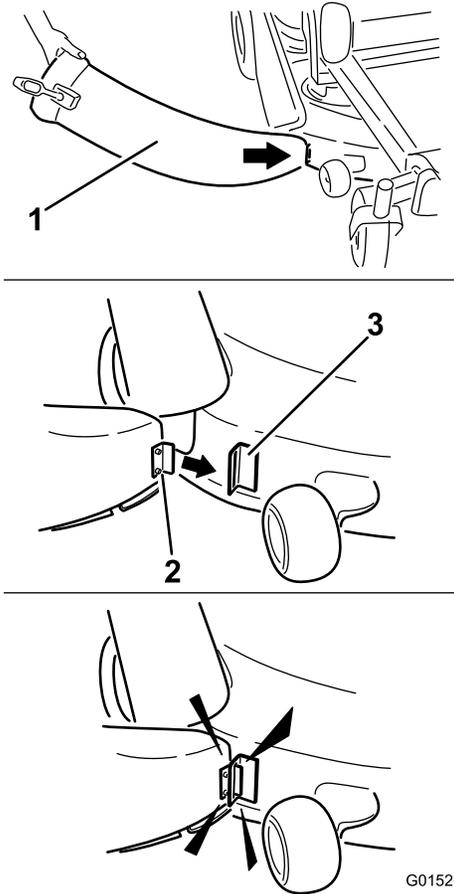

Figure 21
1. Angle the metal tab at the front of the chute into the slot in the bracket welded to the mower deck (Figure 21).